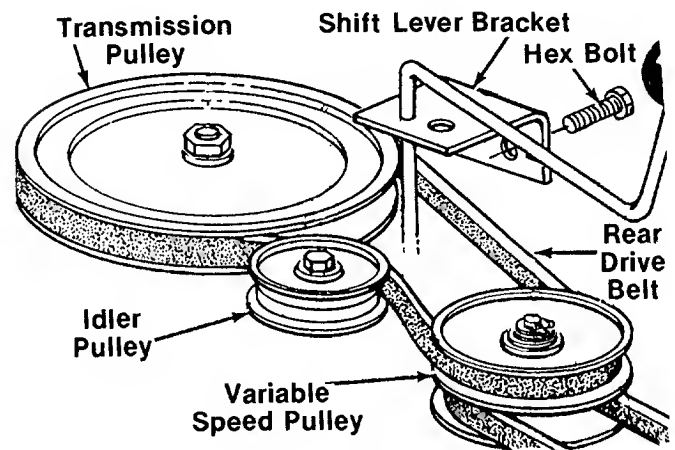

FIGURE 23.
3. Push the idler pulley toward the right side of the unit. Lift the belt over the idler pulley. See figure 23.
5. Remove the two bolts which hold the shift lever bracket to the frame on the left side of the unit. Swing the bracket toward the right so the belt can be removed from the transmission pulley. See figure 23.